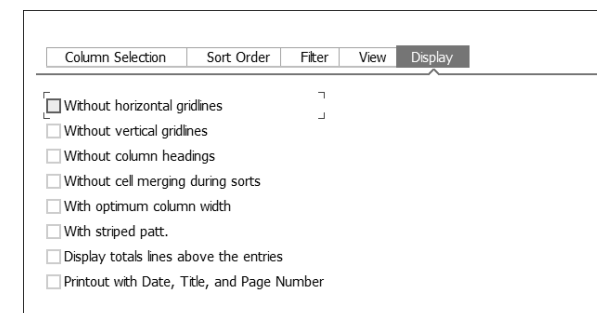

Figure 4.47 List of Inquiries: Change Layout Display Options
7. Use the **Sort Order**, **Filter**, **View**, and **Display** tabs in this screen to change the order of the data, select filtering for certain values, and determine how the data is viewed and presented, respectively. An example of **Display** tab options is shown in Figure 4.47.